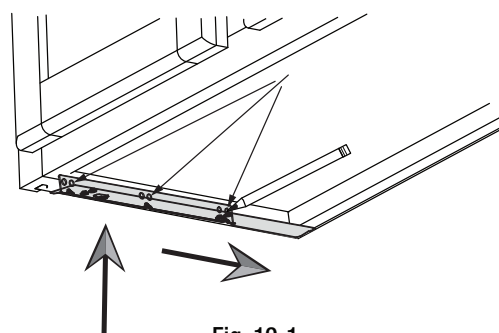

Fig. 19-1
- Align the bracket against the inside edge of the cabinet frame and the back wall. Mark the location of 3 holes (out of the available 6 holes) as shown in fig. 19-1.